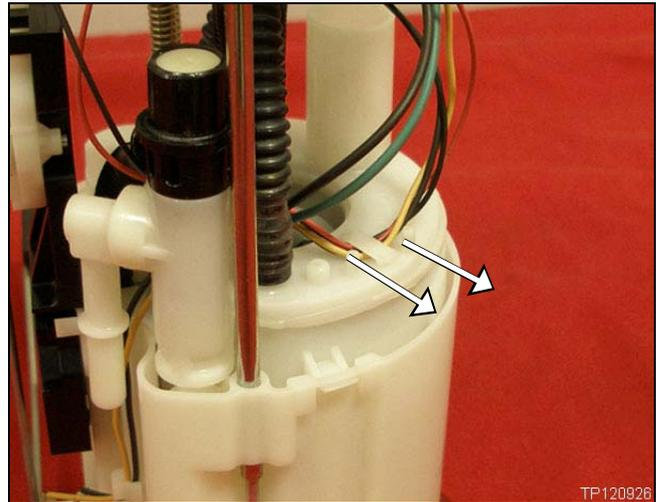

Figure 1
- a. Remove the wires from the retention feature (see Figure 1).